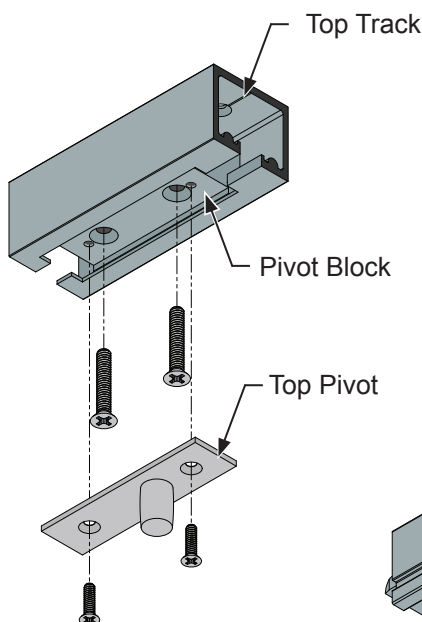

FIG. 1
1. The top track assembly is packed complete with top pivot, pivot block, and roller assemblies installed. Remove the top pivot(s) from the pivot block(s). This will expose the temporary screws holding the pivot blocks to the top track. Remove these screws and discard them. (**Fig. 1**)